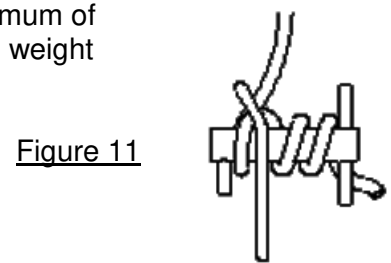

Figure 11
- Wrap the rope around the “long leg” of the Port-A-Wrap using a minimum of 1½ wraps. The number of additional wraps will be determined by the weight of the piece being lowered (3 wraps shown in Figure 11).